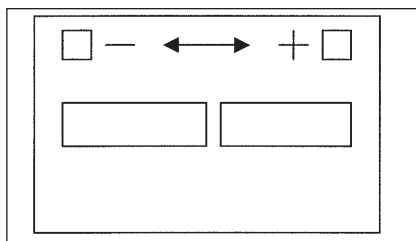

Figure 6
**⚠ CAUTION** Lawn & Garden batteries can come in two terminal configurations. The Positive (+) and Negative (-) terminals can be oriented so that they are +/- or -/+. See Figure 6. In the unlikely event that the battery terminals are unmarked, we recommend that you return the battery to the retailer for exchange for a properly marked battery or let an authorized service center install the battery for you. Failure to connect the battery properly can possibly cause bodily injury. In addition, extensive engine electrical damage not covered under warranty can result.